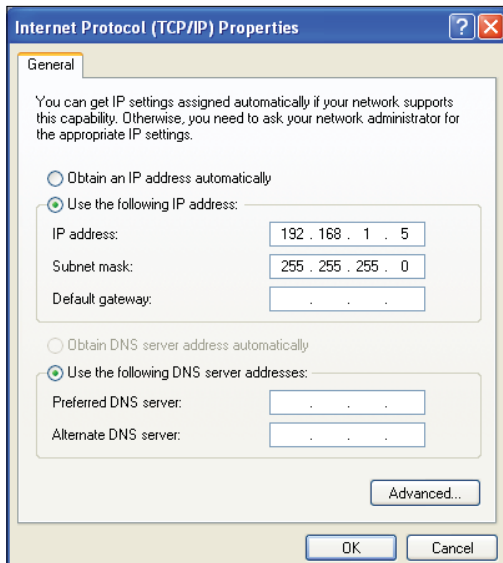

Figure 8: Internet Protocol Properties Window
- 6.) *Select the radio button in front of **Use the following IP address (Figure 8)** and write down the current defaults so that you can re-enter them when you finish configuring the PT-Link II and then type in the following information:*
- 6.) *Choose **Internet Protocol Version 4 (TCP/IPv4)** by highlighting it and then click <Properties>. The *Internet Protocol Properties Window* will appear (**Figure 8**).*
- 7.) *Select the radio button in front of **Use the following IP address (Figure 8)** and write down the current defaults so that you can re-enter them when you finish configuring the PT-Link II and then type in the following information:*